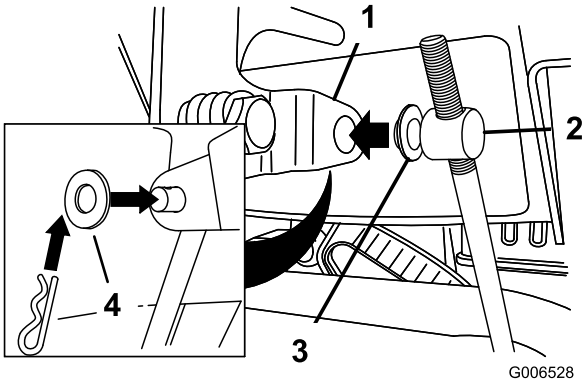

Figure 6
3. Place a flat washer on the trunnion (Figure 6).
6. Pull up on the speed-control rod and insert the trunnion into the hole in the speed-selector lever (Figure 6).
- B. Disconnect the trunnion from the speed-selector lever (Figure 6).
- C. Turn the trunnion upward (counterclockwise) on the speed-control rod (Figure 6).
- D. Connect the trunnion to the speed-selector lever (Figure 6).
- C. Turn the trunnion downward (clockwise) on the speed-control rod (Figure 6).